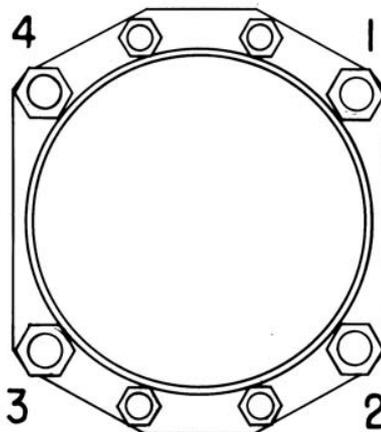

Figure 5-2. Sequence of Tightening Cylinder Base Hold-Down Nuts
- (a) Tighten $\frac{1}{2}$ inch cylinder base nuts to 300 in.-lbs. (25 ft.-lbs.) torque, using the sequence shown in Figure 5-2.